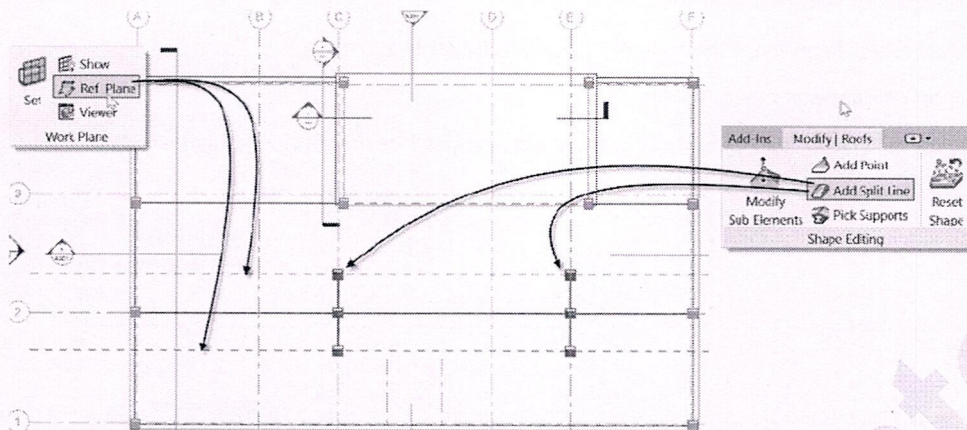

FIGURE 9.56 Add split lines for crickets
- ⇒ Repeat at Grid E (see Figure 9.56).